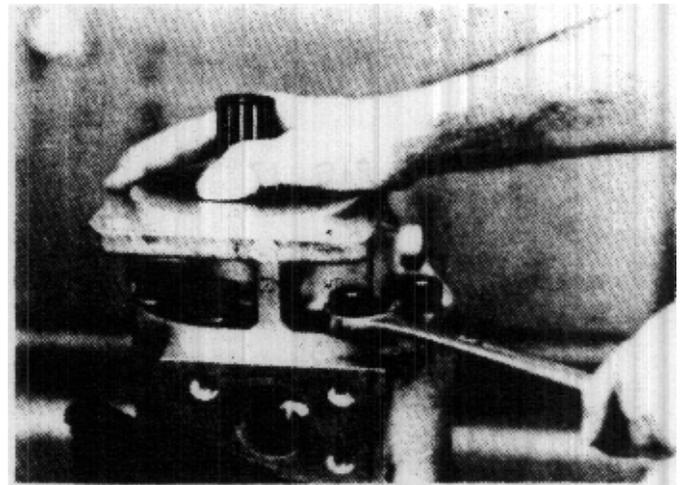

FIGURE 67
45. When the shaft turns properly, lubricate the stud threads with SAE 10 oil and torque all of the nuts 80 to 90 lbs/ft. each. (Figure 67)